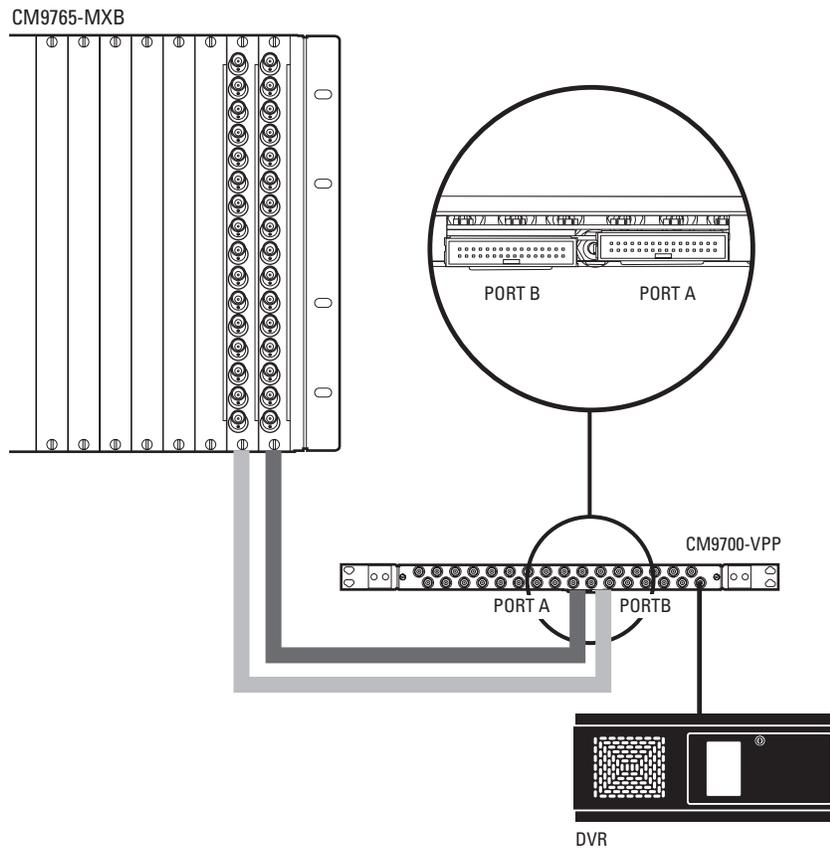

Figure 10. Looping Video Out from the CM9765-MXB
- In a system containing 16 monitors or fewer (the video is not downframed), use the CM9700-VPP panels to loop the video out. Connect the DFC cables that are provided with the VPP panel to the connectors on the bottom of the matrix bay RPC cards, as shown in Figure 10.